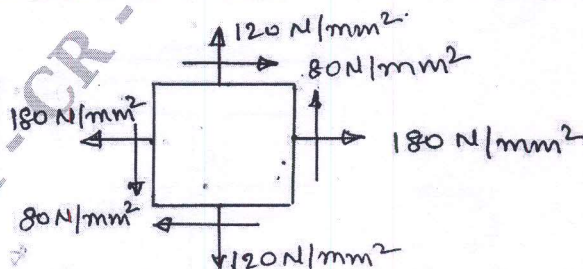

Fig. Q3 (b)
- b. The state of stress at a point in a strained material is as shown in Fig. Q3 (b). Determine (i) the direction of the principal planes (ii) The magnitude of principal stresses and (iii) Magnitude of the maximum shear stress. (10 Marks)